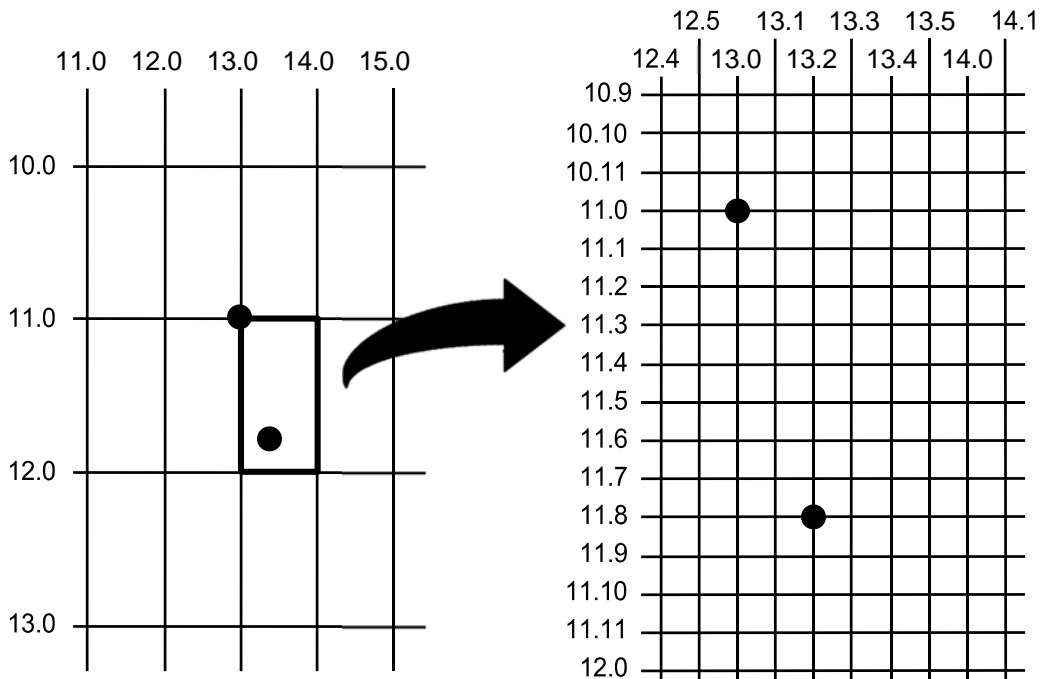

Figure 2 CP.DP Format Example
Each character location is a cell. Each cell is a grid 12 dot rows high by 6 dot columns wide (printing at 6 lpi and 10 cpi). The CP.DP format allows a character cell position (CP) and a specific dot position (DP) within the cell to be identified as shown in Figure 2. The DP portion of the CP.DP format specifies a location down (in reference to rows) and to the right (in reference to columns) within the character cell position.
For example, refer to Figure 2. Suppose a line runs along character position column 13 (CP = 13). At the same time, an alphanumeric string must begin in column 13. With CP.DP format, the alphanumeric string can be offset 2 dot positions (DP = 2) in column 13 to avoid overlap. Specify 13.2 (CP = 13, DP = .2) for the starting column of the alphanumeric string. Similarly, to place a horizontal line 8 dot rows beneath another horizontal line in character row position 11, specify row 11 for one line and row 11.8 for the other line.